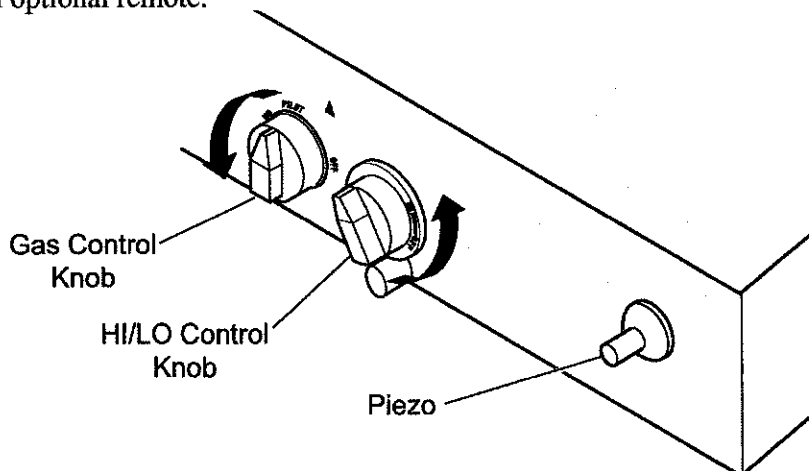

Figure 39 - Control Cover Plate for Hi/Lo
11. Control flame with Hi/Lo control knob. See Figure 39.